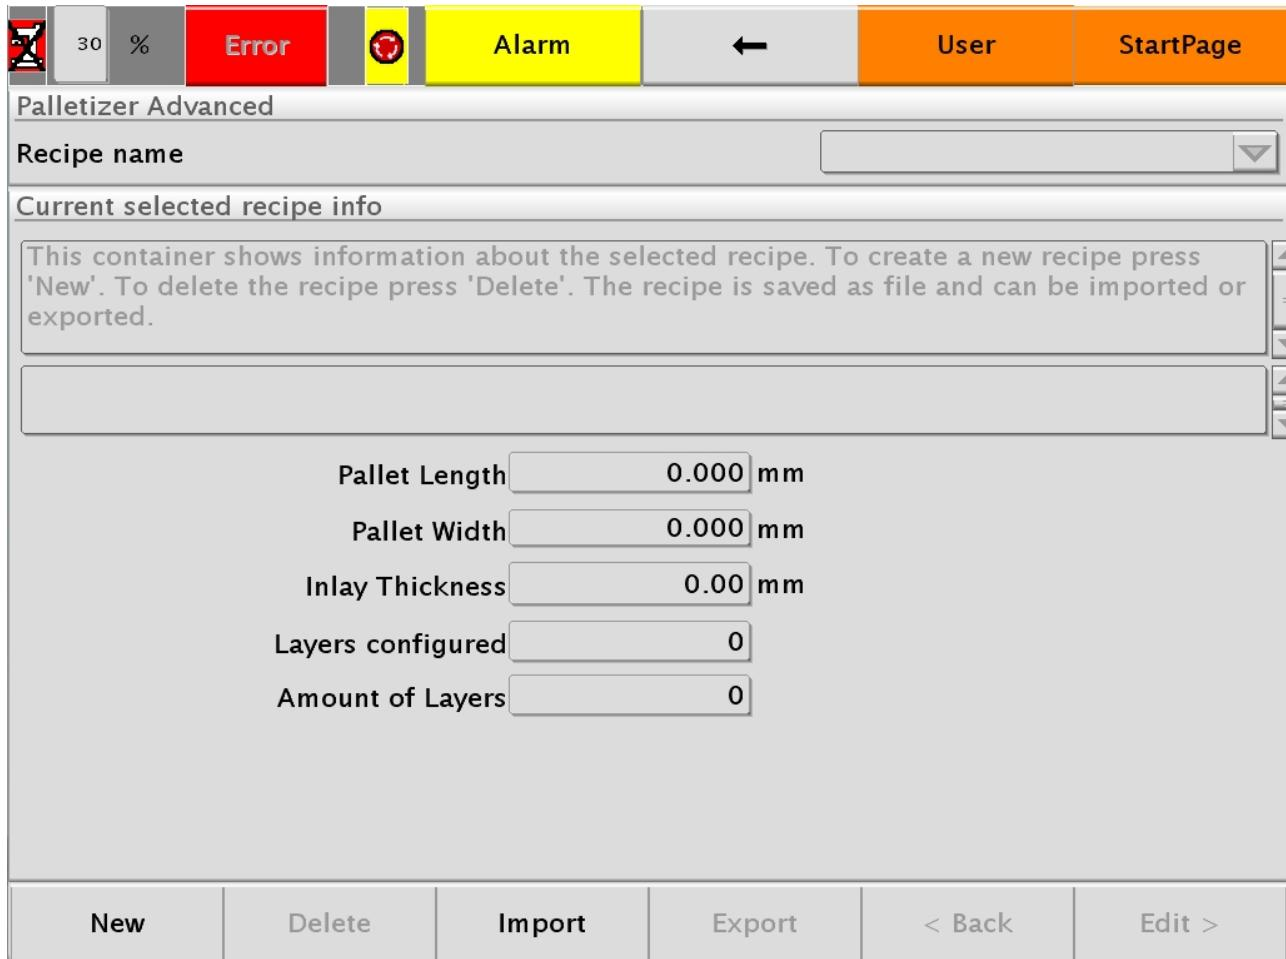

Figure 31
(2) Click " Recipe Menu " to enter the following **figure 31**.